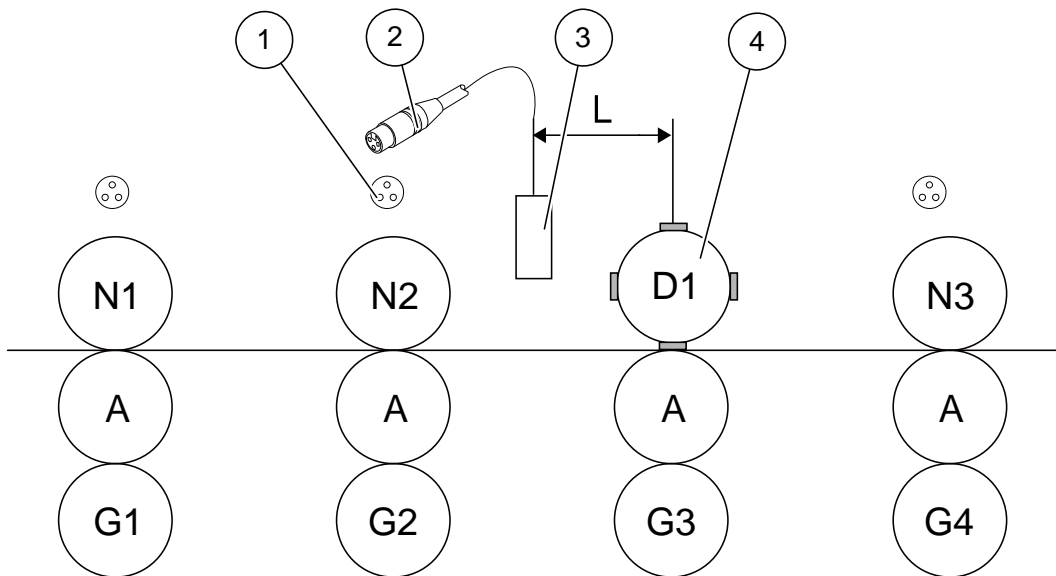

Figure 7-56 Installing photoelectric sensor
(1) Socket (2) Cable plug (3) Photoelectric sensor (4) Die cutter
Step 1: Install the photoelectric sensor (3) to the position shown in Figure 7-56, between cutter G2 and cutter G3;
Step 2: Connect cable plug (2) with socket (1) above cutter G2.
Step 2: Set the "Equal Pitch Distance" to the value of L shown in Figure 7-56; (Step b in Figure 7-57)